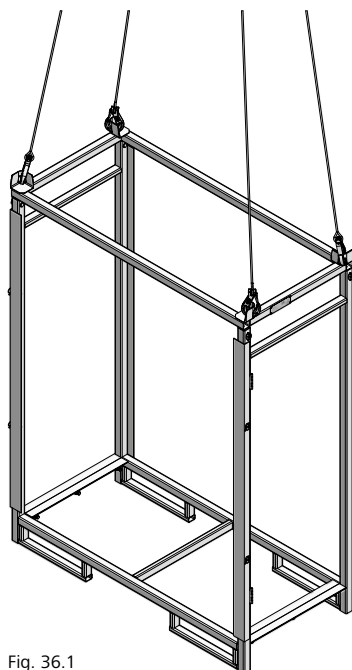

Fig. 36.1
- By crane. Ensure that no persons are located in the danger zone of the load. Use only lifting gear with lifting chains. The lifting chains must be able to move freely in the attachment point, and the hook must be secured to prevent it disengaging inadvertently (Fig. 36.1).